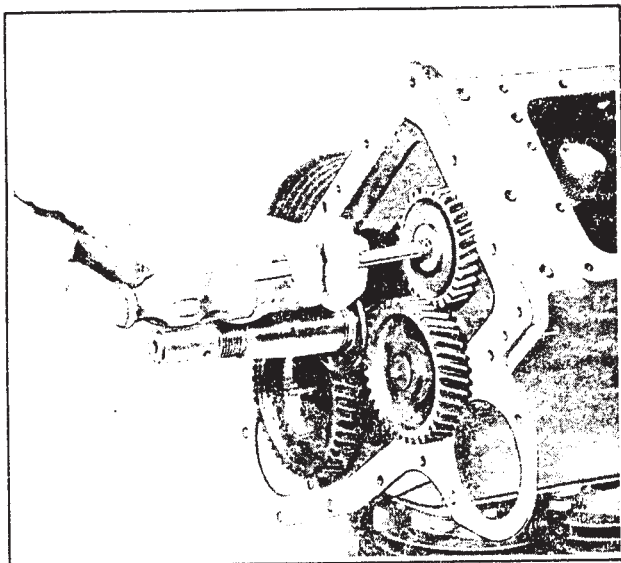

Figure 10-9. Oil Pump Drive Gear Removal
c. With a soft brass rod or punch, drive shaft through gear as shown in figure 10-9. The oil pump can then be withdrawn toward center of crankcase.